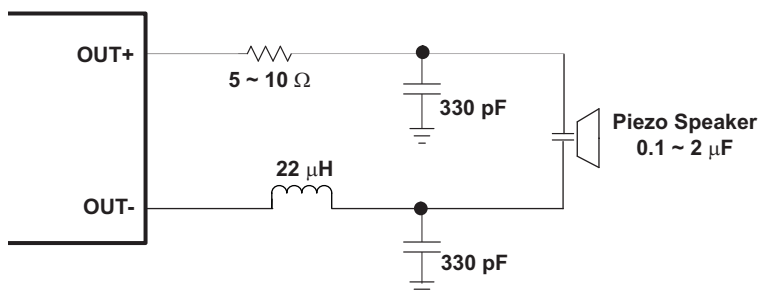
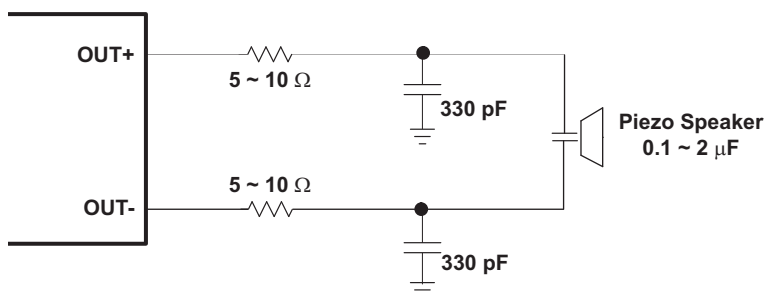
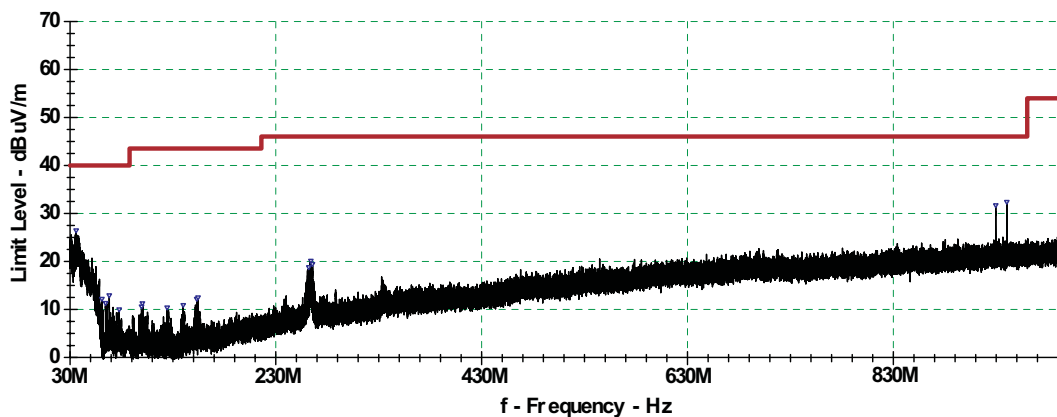

Figure 19. Typical Radiated Emissions Suppression Circuit (Resistor-Speaker-Inductor Load)
Figure 20. Typical Radiated Emissions Suppression Circuit (Resistor-Speaker-Resistor Load)
Figure 21. Measured Radiated Emissions – Vertical Front
A ferrite bead filter is not required for operation with the resistor – speaker – resistor load configuration or with the resistor – speaker – inductor load configuration. In order to achieve low radiated emissions, the resistor and/or inductor should be placed within 1 cm of the output of the amplifier and followed with a 100 pF to 1000 pF capacitor to GND. Figure 19 and Figure 20 show typical load configurations to reduce radiated emissions.
Figure 21 shows the EMC performance of Figure 19 using a 1  $\mu\text{F}$  load to simulate the speaker. Table 3 list the measurement conditions. The worst-case quasi-peak margin is 14.4 dB at 55.9 MHz.
**Table 3. Measurement Conditions for Radiated Emissions of Figure 21**